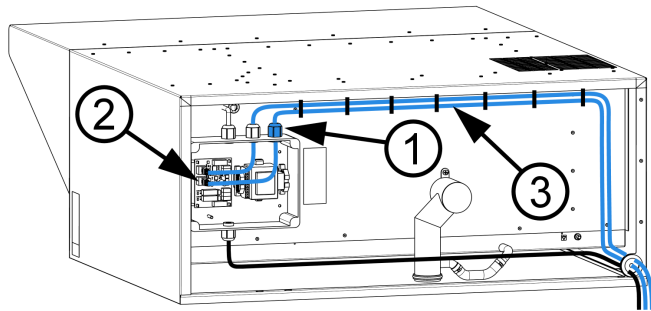

Figure 20: Connecting the cables inside the distributor
Using a tool, unlock and open the cover of the hood distributor. Inside the distributor, unscrew cover M20 from the opening for the cable gland. In place of the cover, install the cable gland (1) with the UTP cable (part of the set) and slide the cable connector into the open position (2) on the electronics board in the hood distributor (see fig. 20).
Run the auxiliary UTP cable with grommets and ferrite in parallel to the original cable (3) and, using the draw strips (part of the set), secure it to the original cable (see fig. 20).